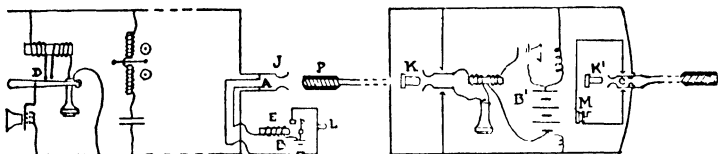

FIG. 18.
**The Central Station System.**—In the modern central station system the individual batteries have been discontinued and the primary current is supplied by a battery of about 24 volts at the central station. The essential parts of such a system are shown in Fig. 18. As the subscriber removes the receiver from the hook the line circuit is closed at contact D and the current flows from battery B in the central station through the electro-magnet E. This electromagnet closes the small shunt circuit through the glow lamp L which is directly in front of the operator. Upon seeing this signal the operator immediately inserts the answering plug P into the subscriber's jack J, and presses the listening key K which connects her own receiver with the line. The subscriber gives the number which he wants and the operator inserts the calling plug into the jack of